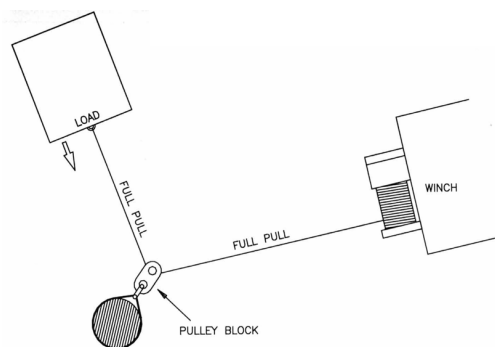

Figure 12
5. Figure 12 illustrate the use of a pulley block to change the direction of the pull. Mechanical advantage can be obtained by attaching a pulley block to the nylon sling with a shackle and running the wire rope to the anchor point